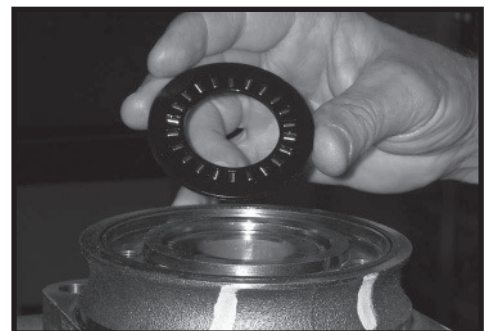

Figure 18
13. Remove thrust bearing (11) from top of coupling shaft (12) if Torqmotor is a Series TF, TG, TH or TL. Inspect for wear, brinelling, corrosion and a full complement of retained rollers. SEE FIGURE 18.